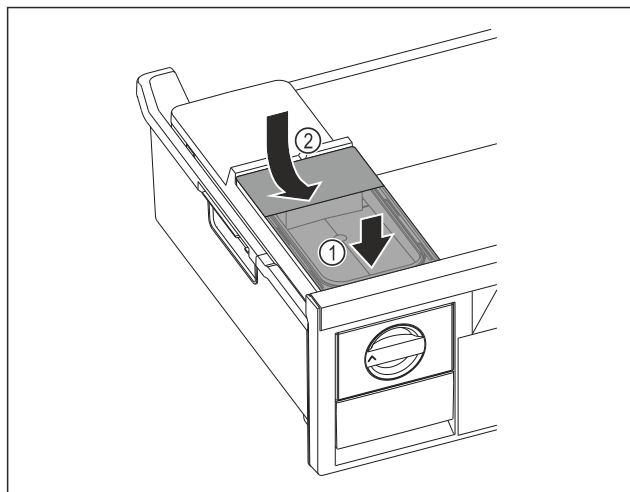

Fig. 86
- Position the water tank at the front. Fig. 86 (1)
- Lower the water tank at the rear. Fig. 86 (2)